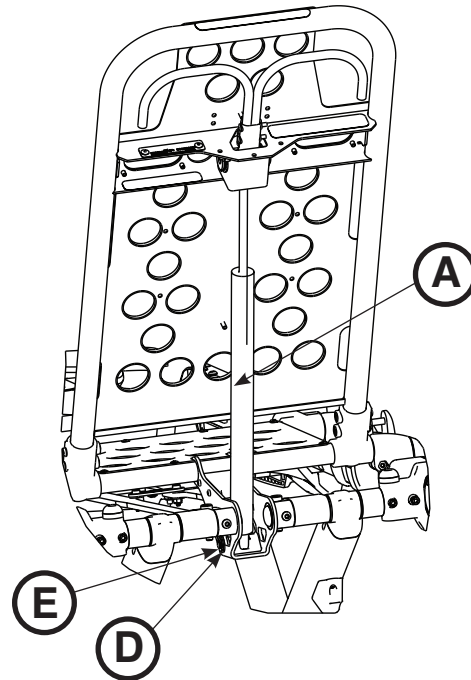
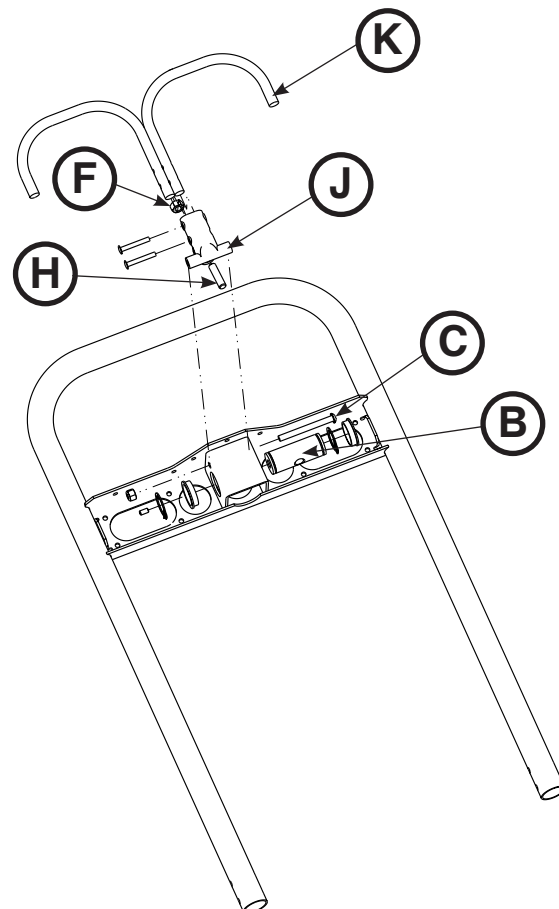

Figure 68
Figure 69
Note: Before continuing with the backrest adjustment procedure, be sure that the cylinder (A) is completely threaded into the yoke (B) so no threads are showing on the shaft of the cylinder. If threads are showing, use a 3/32" hex wrench to remove the set screw (C) in the center of the yoke. Using a small slotted screwdriver, remove the E-clip and pin (D & E) that holds the bottom of the pneumatic cylinder. Thread the cylinder shaft (A) completely into the yoke (B). Replace the E-clip and pin (D & E) and replace the set screw (C) using Loctite®. (Figure 68 and Figure 69)
2. Using a 1/2" combination wrench, loosen the hex nut (F) on the backrest pivot (J) while holding the set screw (H) fixed in the pivot (Figure 69).
3. Using a 5/32" hex wrench, turn the set screw (H) until there is no play between the backrest release handle (K) and the pneumatic cylinder release button (Figure 69).
5. Using the 1/2" combination wrench, tighten the hex nut (F) while holding the set screw fixed in the pivot (Figure 69).